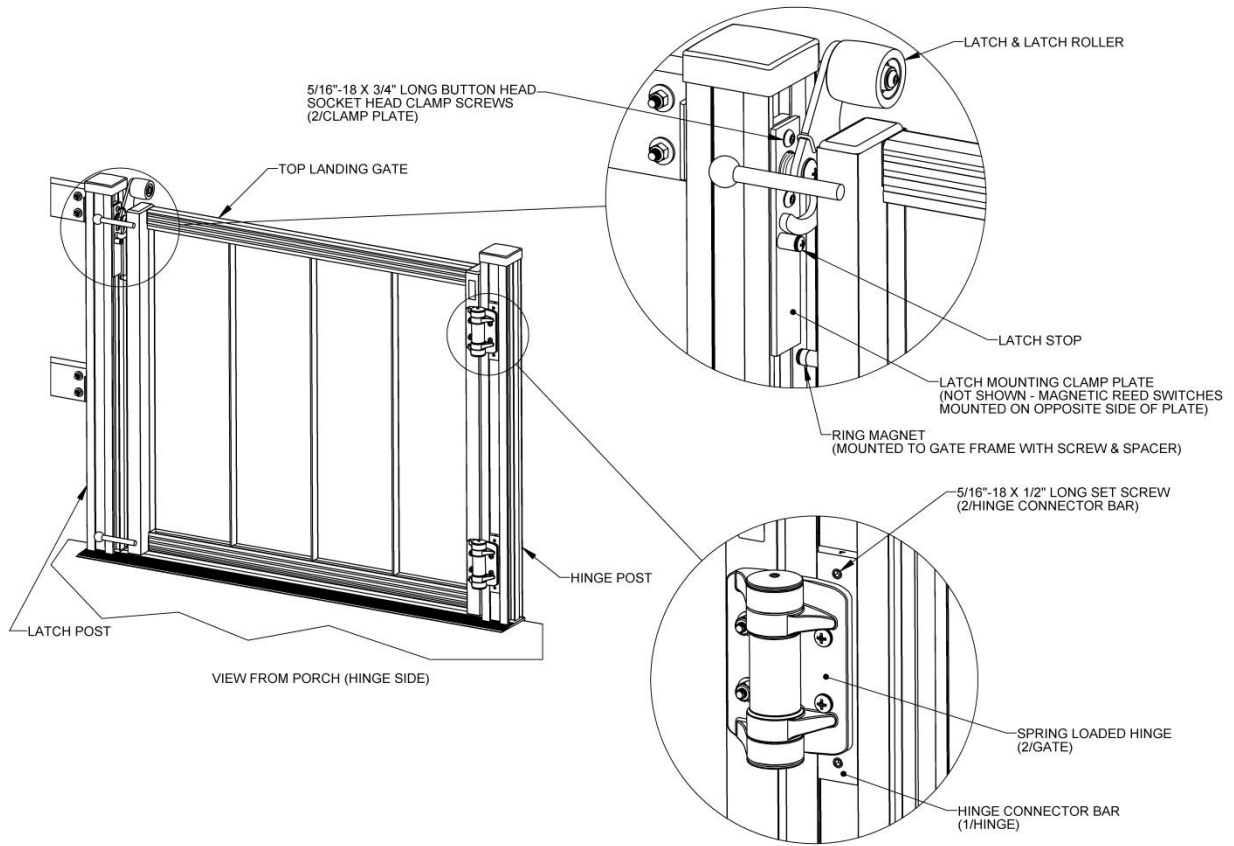

FIG. 6.5
- a. Loosen the two 5/16"-18 x 1/2" set screws in each hinge connector bar enough that the Top Landing Gate will move but do not remove completely (FIG. 6.5).